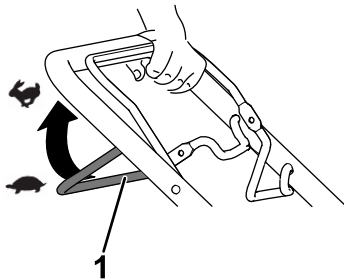

Figure 11
- To engage the self-propel drive, pull the self-propel-drive bar to the handle and hold it (Figure 11).